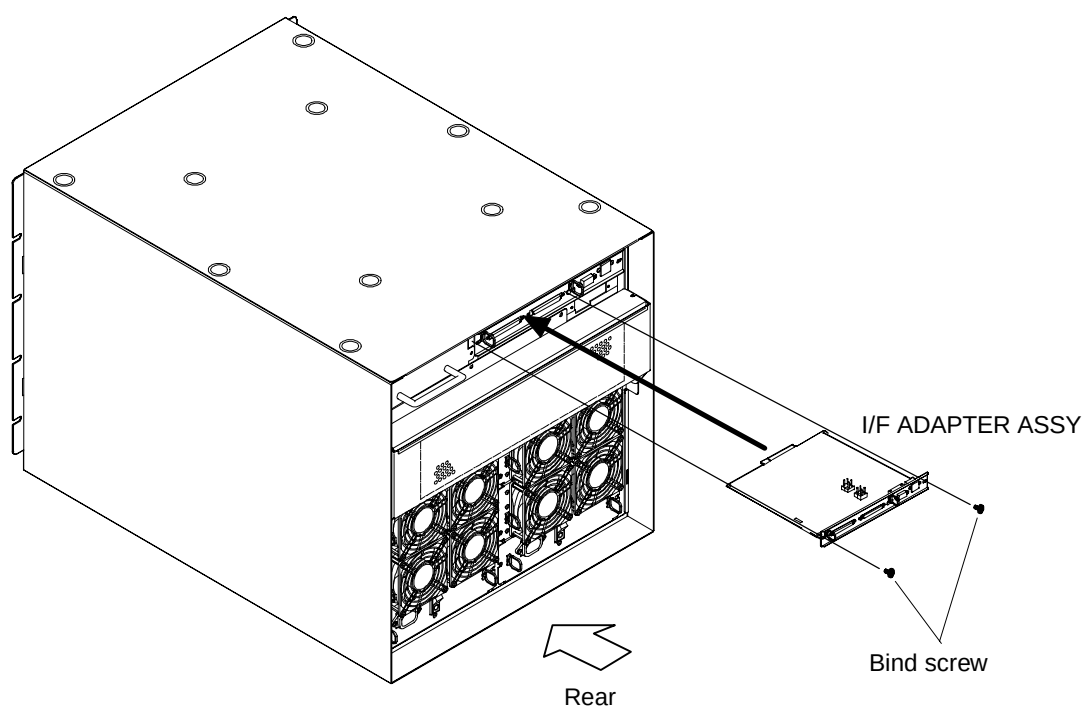

Figure 3.2.5 Setting I/F ADAPTER ASSY
(5) Setting I/F ADAPTER ASSY (See Figure 3.2.5.)
- ① Insert the I/F ADAPTER ASSY into the right place and tighten the two bind screws.